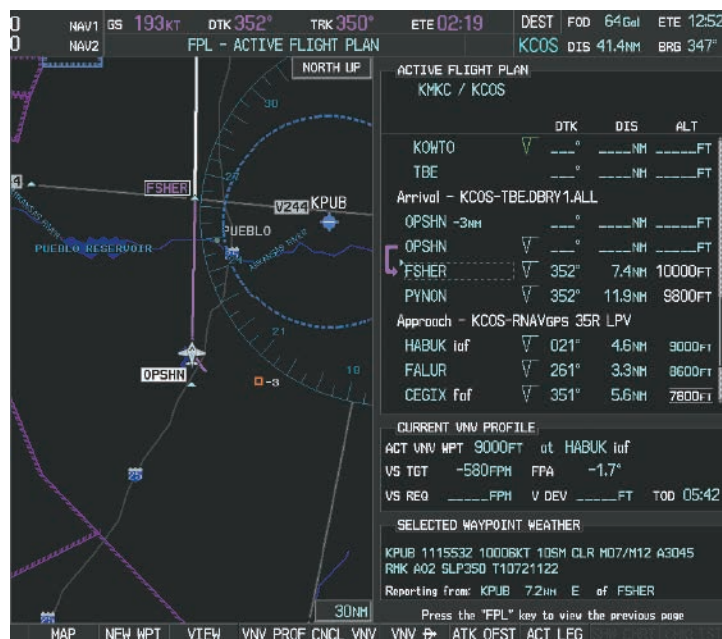

Figure 5-143 Tracking the OPSHN to FSHER Leg
- 19) After passing OPSHN, the next leg of the arrival turns magenta as shown in Figure 5-143. The magenta arrow in the flight plan list now indicates the OPSHN to FSHER leg of the arrival procedure is now active.